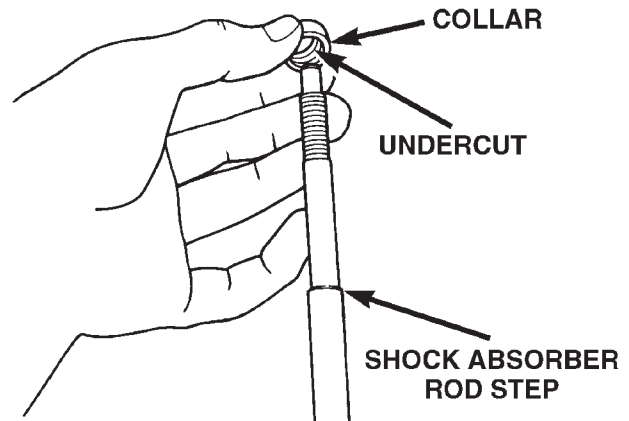

Fig. 52 Installing Collar On Shock Absorber Rod
(8) Install the collar on the rod of the shock absorber assembly with the undercut side of sleeve facing down (Fig. 52). Push the collar down until seated on the step of the shock absorber rod.